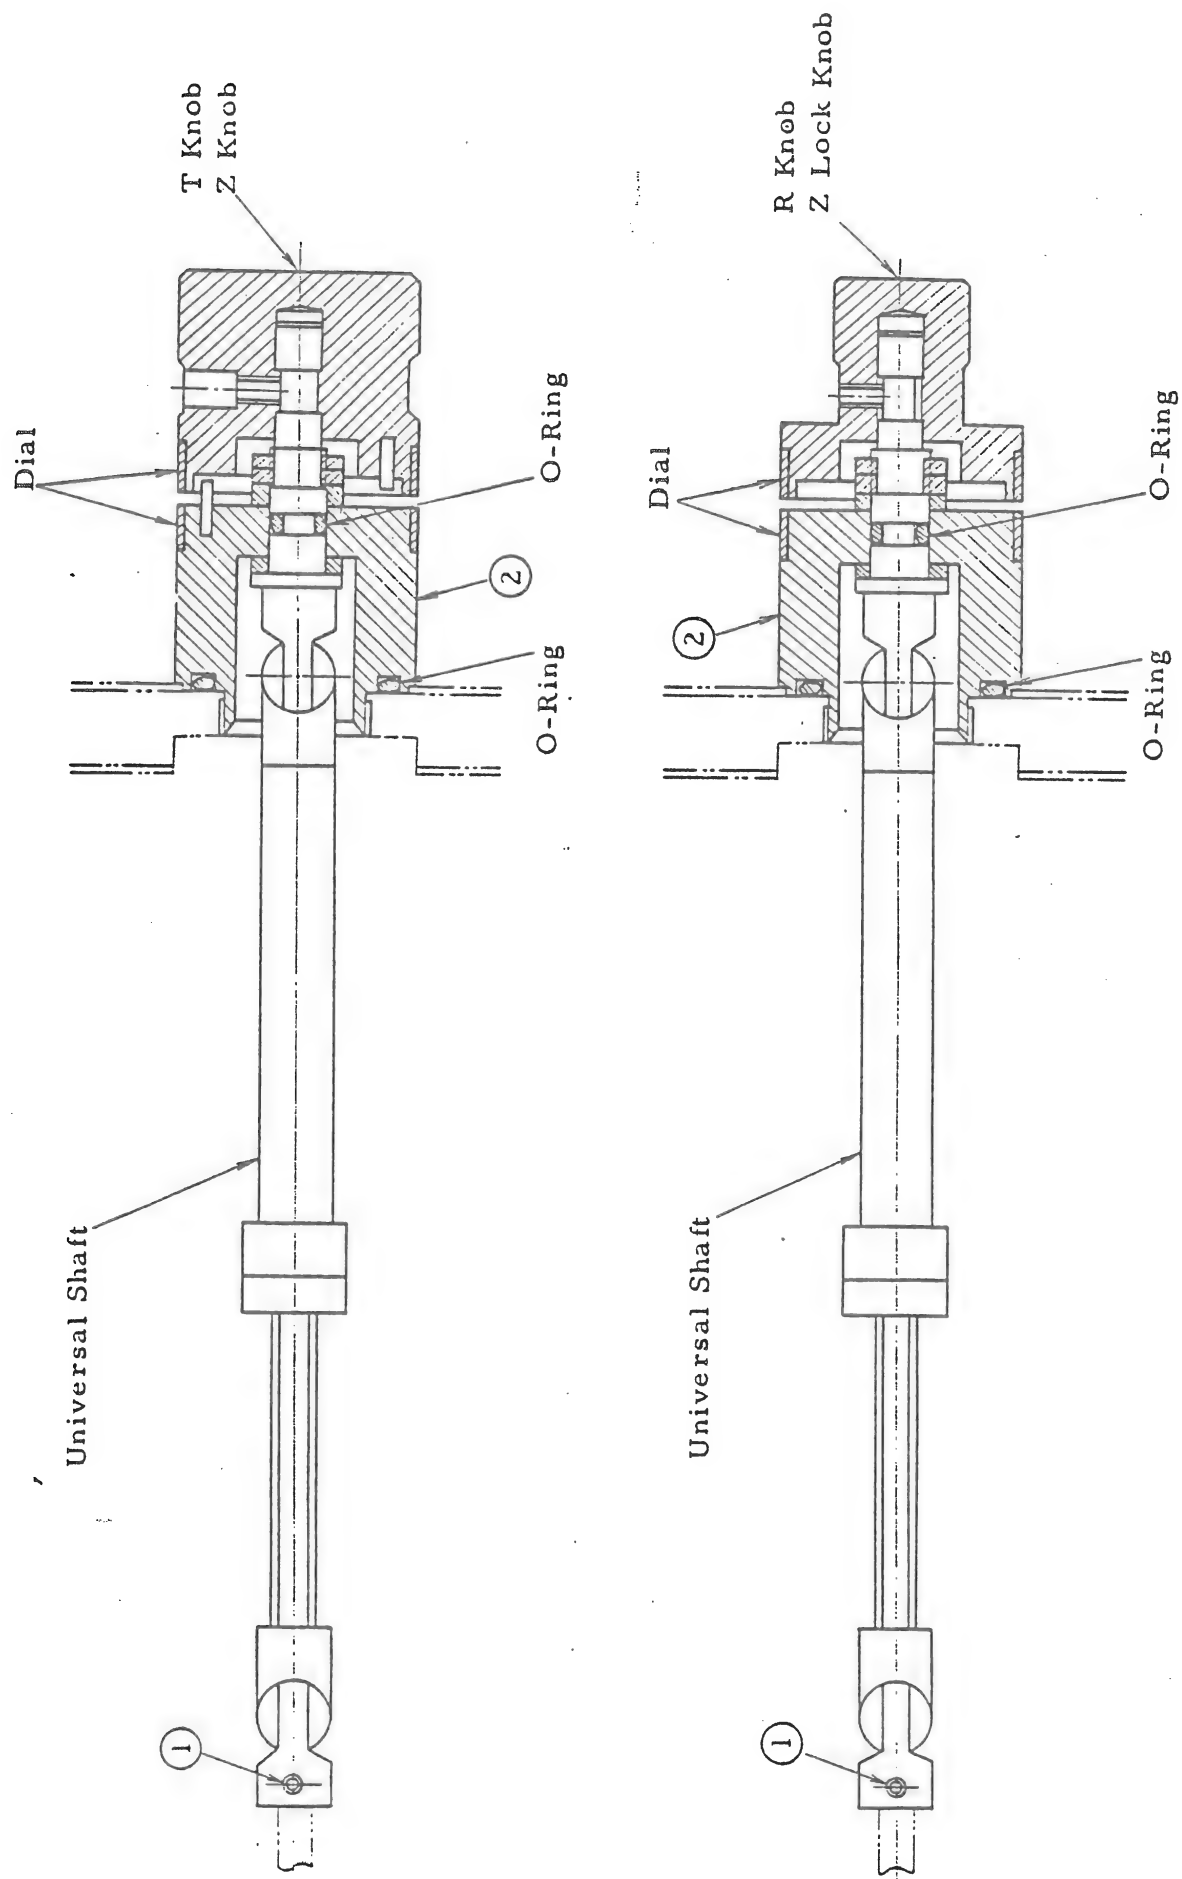

Fig. 4-15 Construction of T, R, Z, and Z Lock Knobs and Drive Shaft
- 1) Loosen two screws ① (Figs. 4-15 and 4-16) at the tip of each knob drive assembly.
- 2) Turn knob base ② (Fig. 4-15) counterclockwise.